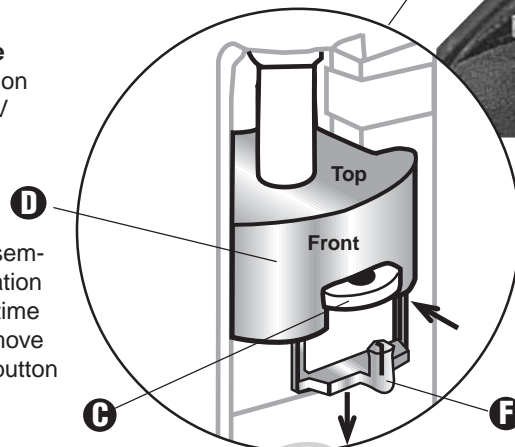

Fig. 3
7. Attach stroke indicators (G) above and below the Valve coupling.
8. Screw NV actuator (A) onto valve, and tighten valve bonnet nut (J).
9. Press locking mechanism (C) into valve coupling (D). Locking pin (F) must not be engaged (See Fig. 3).
10. Lower plunger (K) using manual override until stem adaptor (I) meets valve coupling. When connected, locking mechanism (C) pops out of valve coupling.
11. Secure by pressing locking pin (F) up into locking mechanism.
12. Move sliding stroke indicators (G) to sit above and below lip on valve coupling (H). Stroke indicators are automatically repositioned to the maximum stroke when power is applied to actuator.
2. Attach bracket (E) onto bottom of NV actuator (A) with 4 provided screws (B).
3. Press locking mechanism (C) into valve coupling (D). (See Fig.3).
4. Attach valve coupling (D) to actuator plunger (K). (See Fig. 3). Note: valve coupling must be centered and level within bracket frame, see Figure 2. (Note bracket configuration)
5. Attach stroke indicators (G) above and below the valve coupling.